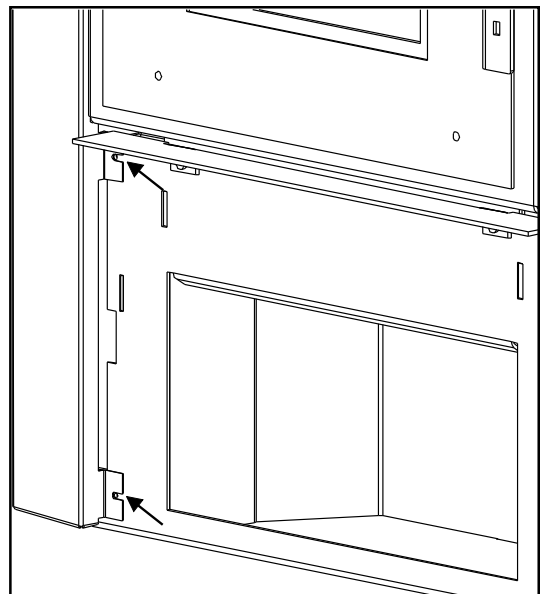

Figure 9
3. Remove the four (4) screws, two on each side, under the ash drawer holding the cabinet sides on (see Figure 9).